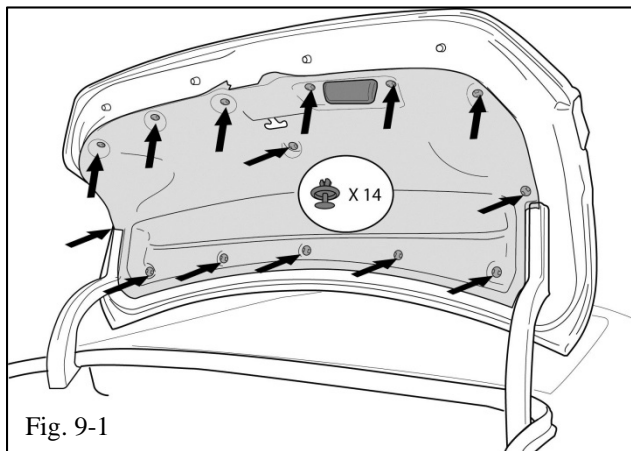

Fig. 9-1
- (a) Reinstall the trunk lid trim panel (Fig. 9-1).
- (b) Replace the 14 clips (Fig. 9-1).